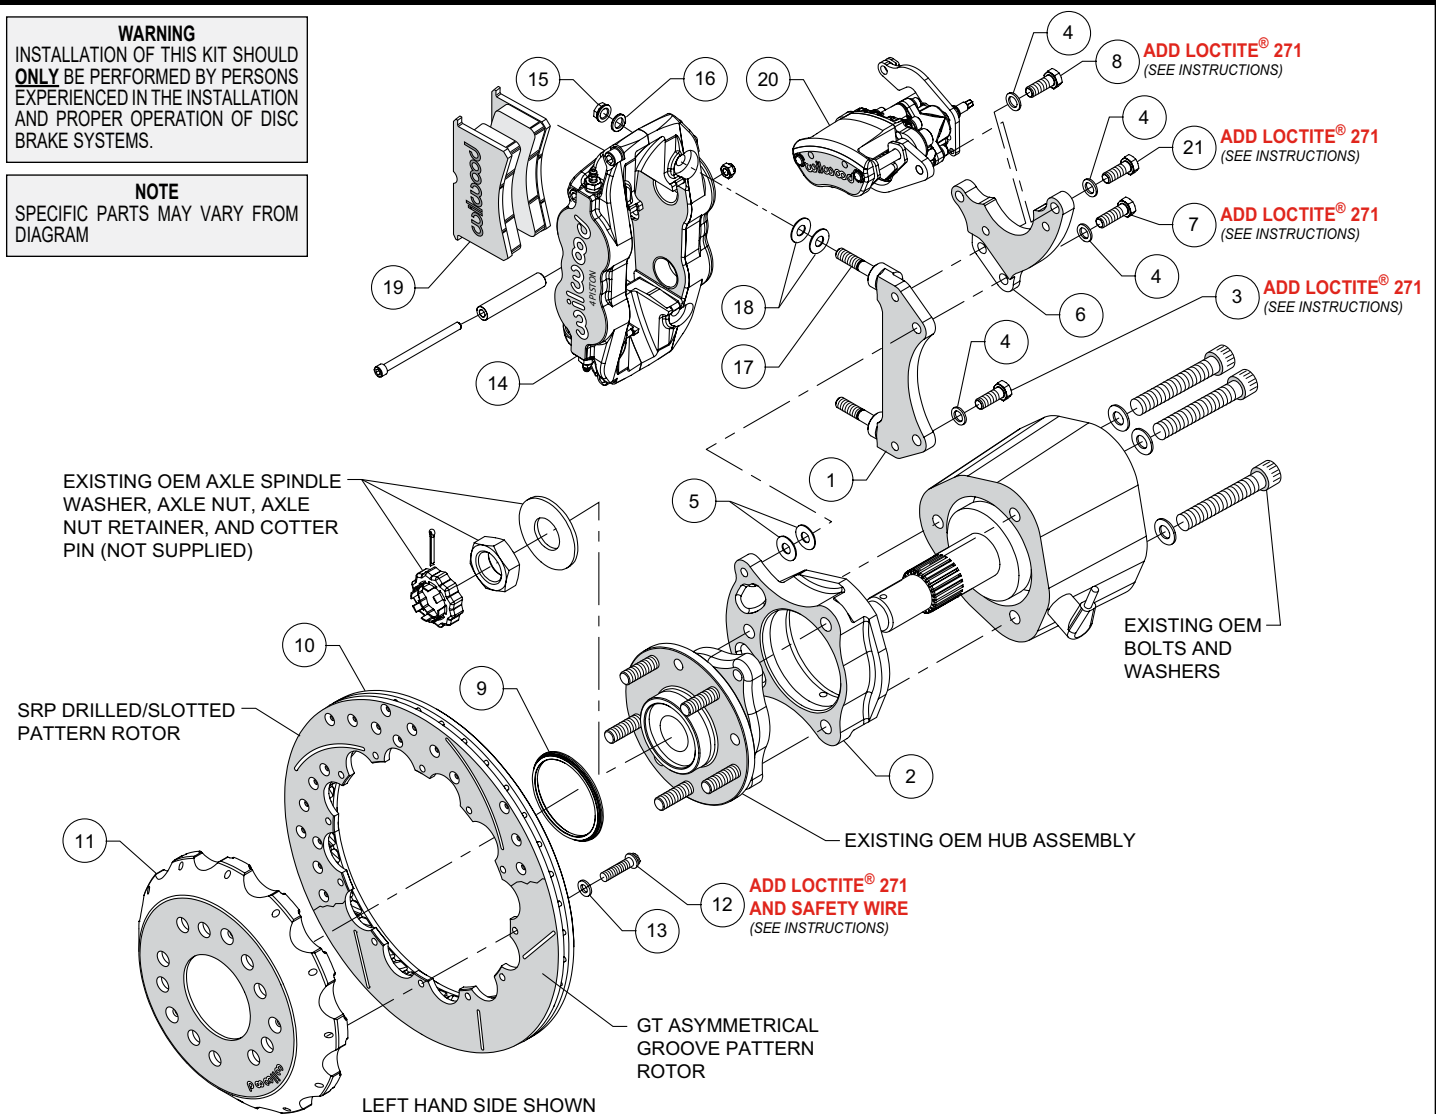
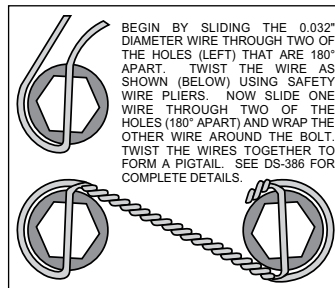

Figure 1. Typical Installation Configuration
Figure 3. Safety Wire Diagram
NOTE: Numbers in parenthesis refer to the parts list and Figure 1 on the preceding pages.
- The caliper and parking brake mount brackets should initially be installed with clean, dry threads on the mounting bolts. Orient the parking brake bracket (6) and caliper bracket as shown in Figure 1 and Photo 1. Attach parking brake bracket using top bolt (8) and washer (4) (arrow). Do not tighten.
- Attach the radial mount caliper bracket (1) to the axle hub bracket (2) using bolts (3 and 7) and washers (4) as shown in Figure 1 and Photo 1. Initially place two .035" thick shims (5) on bolts (3 and 7) between the radial bracket and axle hub bracket, Figure 1. Temporarily tighten all three bolts. Later, after the caliper alignment has been checked, the mount bolts will be secured using red *Loctite*® 271.
- Orient the caliper bracket assembly (1, 2 and 6) as shown in Figure 1 and Photo 2. **NOTE:** *The bracket assembly must fit squarely against the face of the upright.* Inspect for interference from casting irregularities, machining ridges, burrs, etc.
- Slide the rotor registration adapter (9) onto the axle register on the hub assembly with the smaller O.D. facing outward, Photo 4.
- Orient the rotor (10) and the hat (11) as shown in Figure 1 and Photo 5. Attach rotor to hat using bolts (12) and washers (13). Apply red *Loctite*® 271 to the bolt threads and torque to 155 **in-lb** using a criss-cross pattern. For an added measure of security, the bolts may be safety wired using standard 0.032 inch diameter stainless steel safety wire as shown in Figure 3. Please refer to Wilwood's data sheet DS-386 (available at www.wilwood.com/Pdf/DataSheets/ds386.pdf) for complete safety wire installation instructions.
- Initially place two .035" thick shims (18) on each stud (17) as shown in Figure 1 and Photo 7. Mount the caliper (14) onto the bracket (1) using lock nuts (15) and washers (16), Figure 1. Temporarily tighten the lock nuts and view the rotor through the top opening of the caliper. The rotor should be centered in the caliper, Photo 8. If not, adjust by adding or subtracting shims (5) between the radial bracket (1) and the axle hub bracket (2). Always use the same amount of shims on each of the two mounting bolts. Once the caliper alignment is correct, remove the radial/MC4 bracket mounting bolts (3, 7 and 8) one at a time, apply red *Loctite*® 271 to the threads, and torque bolts to 35 ft-lb.
- Mount the parking brake caliper (20) onto the top section of the caliper bracket assembly (1 and 6) using bolts (21) and washers (4), as shown in Figure 1 and Photo 12. Apply red *Loctite*® 271 to bolt threads, and torque to 30 ft-lb.